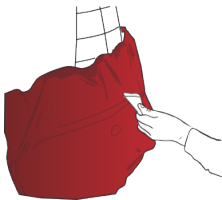

Figure 14
- › Apply the vinyl over the whole surface using a felt-covered plastic squeegee, and carefully wipe over the convex area (FIG. 14) to eliminate any tensions and folds.